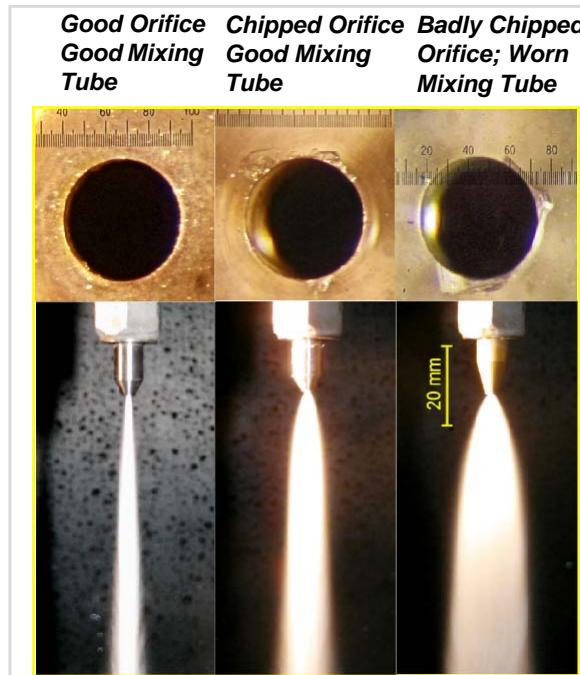

Figure 3-9
- d. Refer to Figure 3-9 to compare the effect that a damaged orifice and worn mixing tube have on the quality of a nozzle's jet stream.
- c. When the jet stream begins, pinch the **abrasive feed tube** until blocked to examine the quality of the jet stream, verifying that it's straight and narrow as illustrated in Figure 3-9.